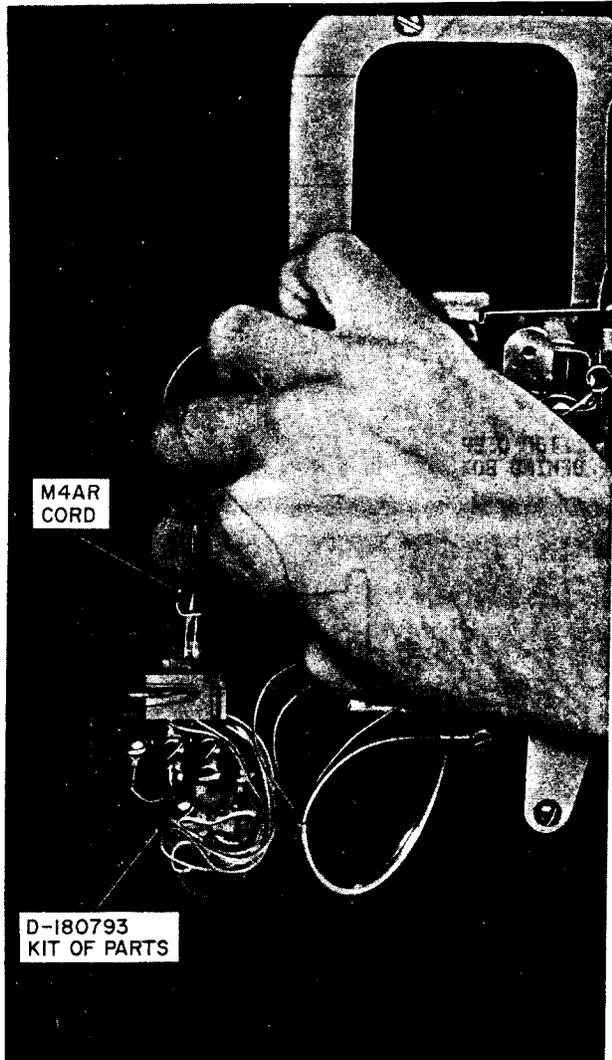

Fig. 7— Mounting Location of D-180793 Kit of Parts in Outlet Box
- (2) Install the D-180793 Kit of Parts in lower left hand corner mounting hole of the outlet box as shown in Fig. 7. Mount the kit of parts with the round head machine screw 802056515 (P-205651) which is provided.
- (3) Make station wire connections to the kit of parts terminal board. Refer to Part 4.
- (4) Plug the M4AR cord into 623P4 jack (Fig. 7) and handset cord into handset cord jack located on mounting plate assembly.